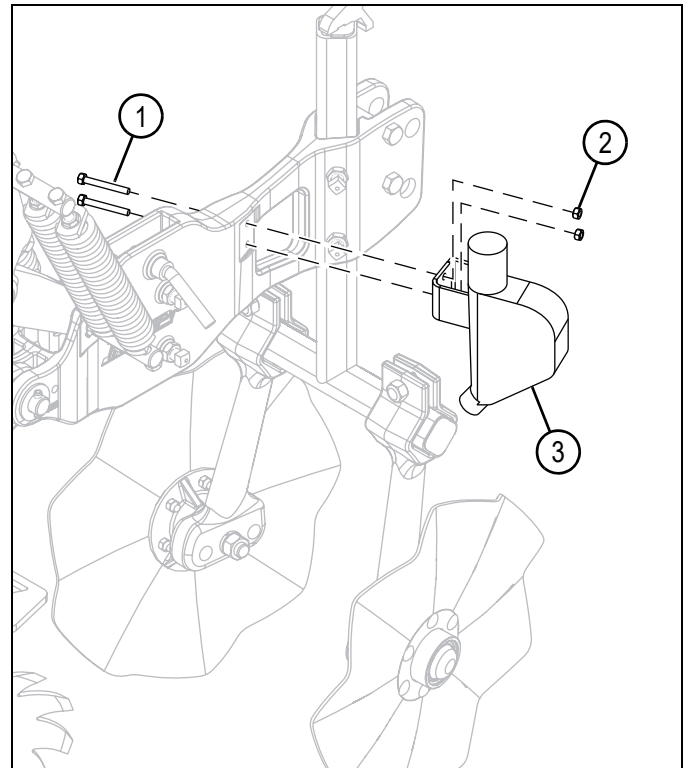

Figure 4-10
1. Install air diffuser (3), bolts (1), and nuts (2) as shown in Figure 4-10.